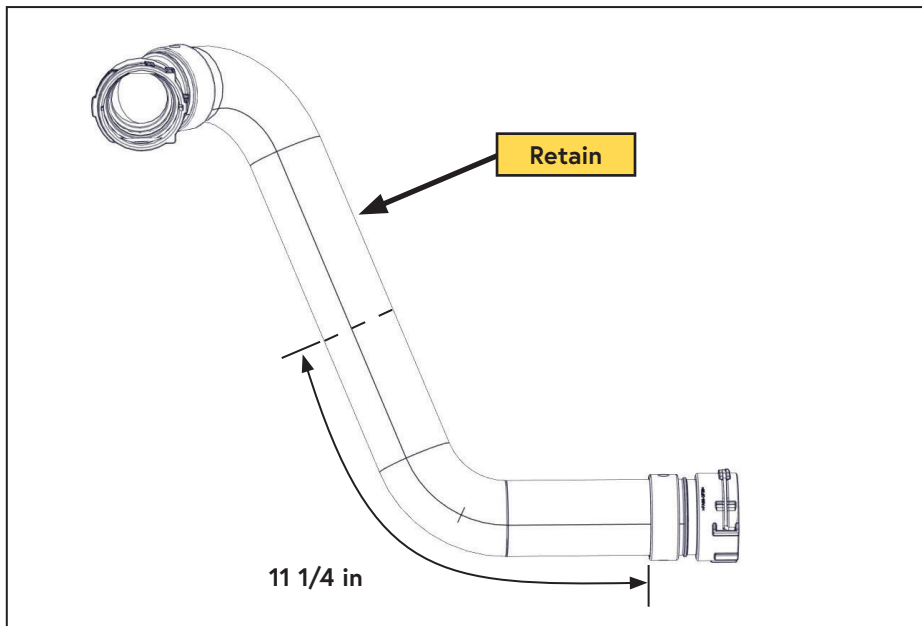

Figure 9 — Coolant hose modification
- ☐ Measure 11 1/4 in from the female quick connect and cut the hose (Figure 9).